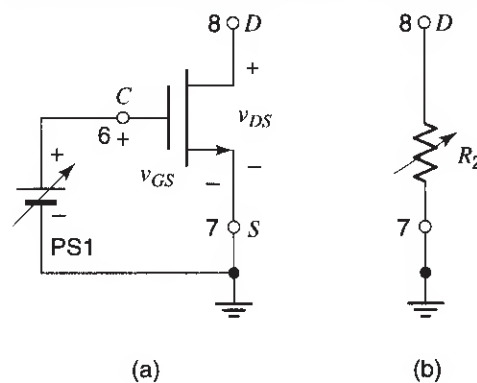
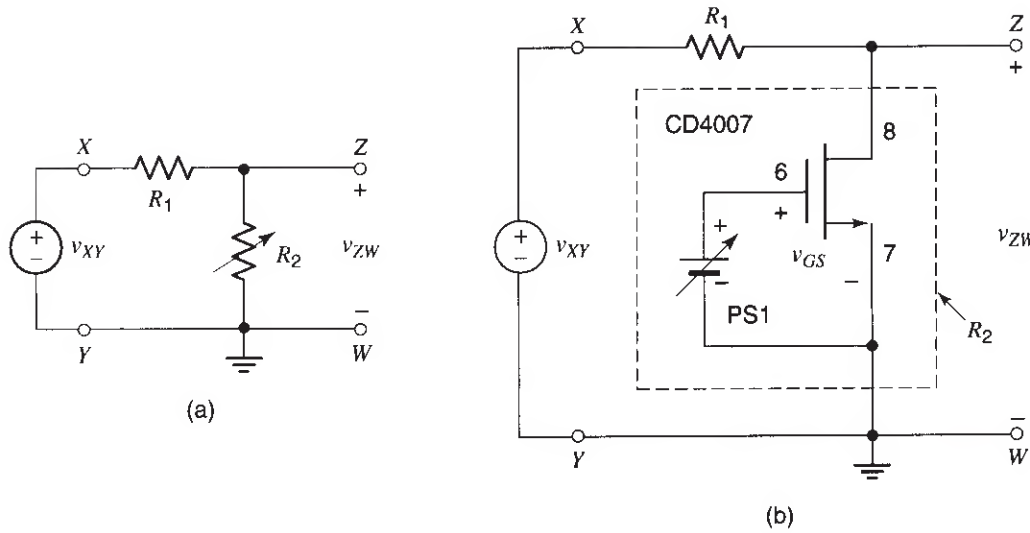

Fig. 4
Fig. 5
8. Form the circuit of Fig. 4(a), by *disconnecting* PS2 and the DMMs from the circuit of Fig. 2. Connect an ohmmeter between the drain and the source, and verify that the resistance across these two terminals can be varied by varying v_{GS} . Verify the values
From the results so far, it is evident that the circuit of Fig. 4(a) is a *voltage-controlled resistor*; that is, it is equivalent to Fig. 4(b), where the value of R_2 depends on v_{GS} . The arrow through the resistor indicates that its resistance can be varied. (Keep in mind that this resistor is linear provided that the drain-source voltage is kept sufficiently small; otherwise, its current will not be proportional to the voltage across it.)
9. You can use the fact that the MOSFET can be used as a voltage-controlled resistor, to make a voltage-controlled potentiometer. Consider the voltage divider shown in Fig. 5(a). R_1 is a conventional, fixed resistor, whereas R_2 is a variable resistor. If a voltage v_{XY} is applied to the circuit as shown, the output voltage v_{ZW} will be
In the circuit of Fig. 5(a), R_2 can be replaced by the MOSFET, as suggested by the equivalence of the circuits in Figs. 4(a) and 4(b). Thus, the circuit of Fig. 5(b) results (*do not build this circuit yet*). Now, one can vary the division ratio $R_2/(R_1 + R_2)$ by varying R_2 through v_{GS} .
10. Now build the circuit of Fig. 5(b). Keep in mind that the MOSFET behaves as a linear resistor *only* if the voltage between its drain and source is sufficiently small; thus, *avoid* large v_{ZW} values. Do *not* use an ohmmeter in this step. Verify that the voltage division ratio, $v_{ZW}/v_{XY} = R_2/(R_1 + R_2)$, can be varied in the range expected from step 9 by varying v_{GS} .
11. From the results obtained so far, you can see that if v_{GS} is sufficiently small, the MOSFET behaves as an open circuit between the drain and the source; thus, the drain-source path in Fig. 4 acts as an open switch in this case. Also, you can see that with v_{GS} large, the MOSFET presents a rather small resistance between the source and the drain (always assuming that the drain-source voltage is small). If that resistance were zero, the MOSFET would behave as a closed ideal switch in this case; since the resistance is not zero, we can say that it behaves as a closed nonideal switch (essentially, it behaves as a closed ideal switch with some resistance in series with it).